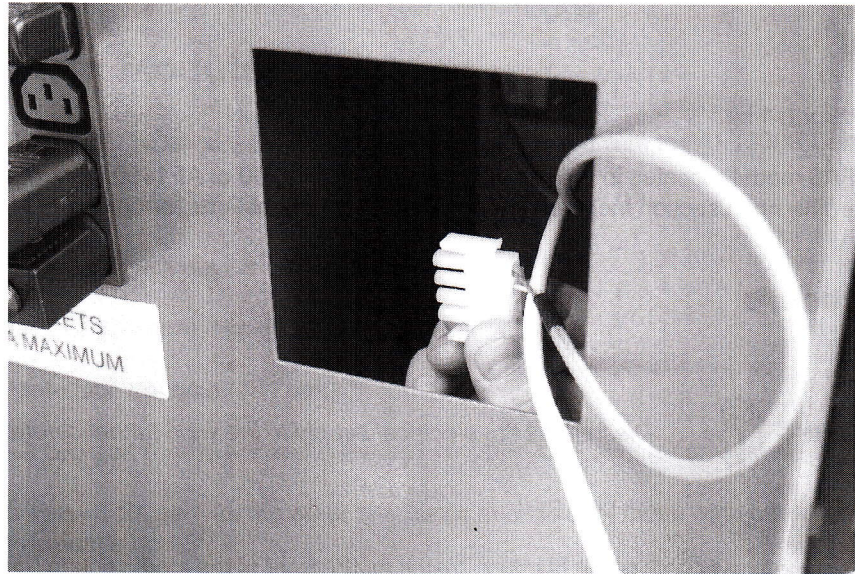

Figure 4 Reach inside the holes at the back of the main section and connect the power connectors
3. From the rear of the main section two holes can be seen. Reach inside the holes and connect the two power connectors to the AFA5 modules. The power connectors are 4 pin plugs (see Figure 4).